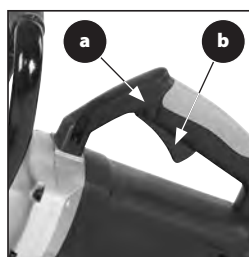

FIG. 5a & 5b
- Push in the safety lock button (Fig. 5a) on the side of the handle with your thumb.